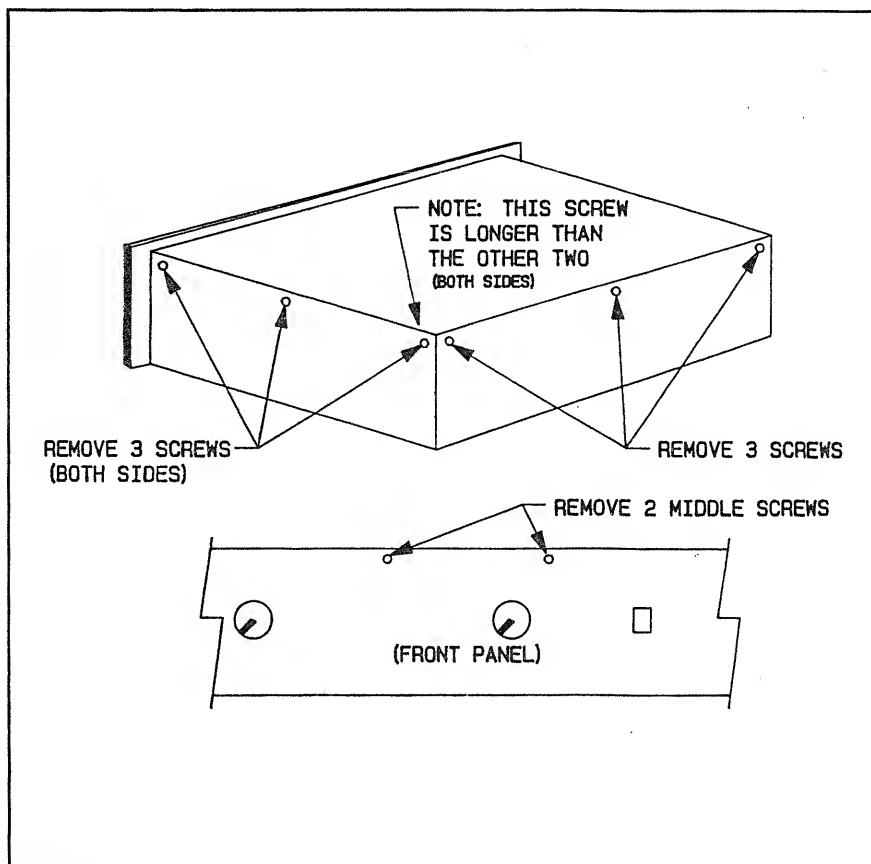

Figure 1 Top Cover Removal
2. Remove and save the eleven screws securing the top cover. There are three screws on each side and three along the top-rear edge of the chassis. In addition, you must remove the two inside screws along the top edge of the front panel. Refer to Figure 1 for the exact screw